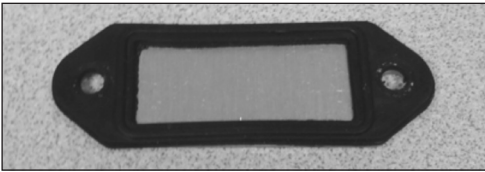

Figure 9.24 Example - Gasket installed on temperature probe cover
11. Place a new gasket onto the TC probe cover as shown in Figure 9.24 Example and attach the cover by using a 1/8" Allen wrench to screw the two button head cap screws. Torque screws to 10-12 inch pounds.